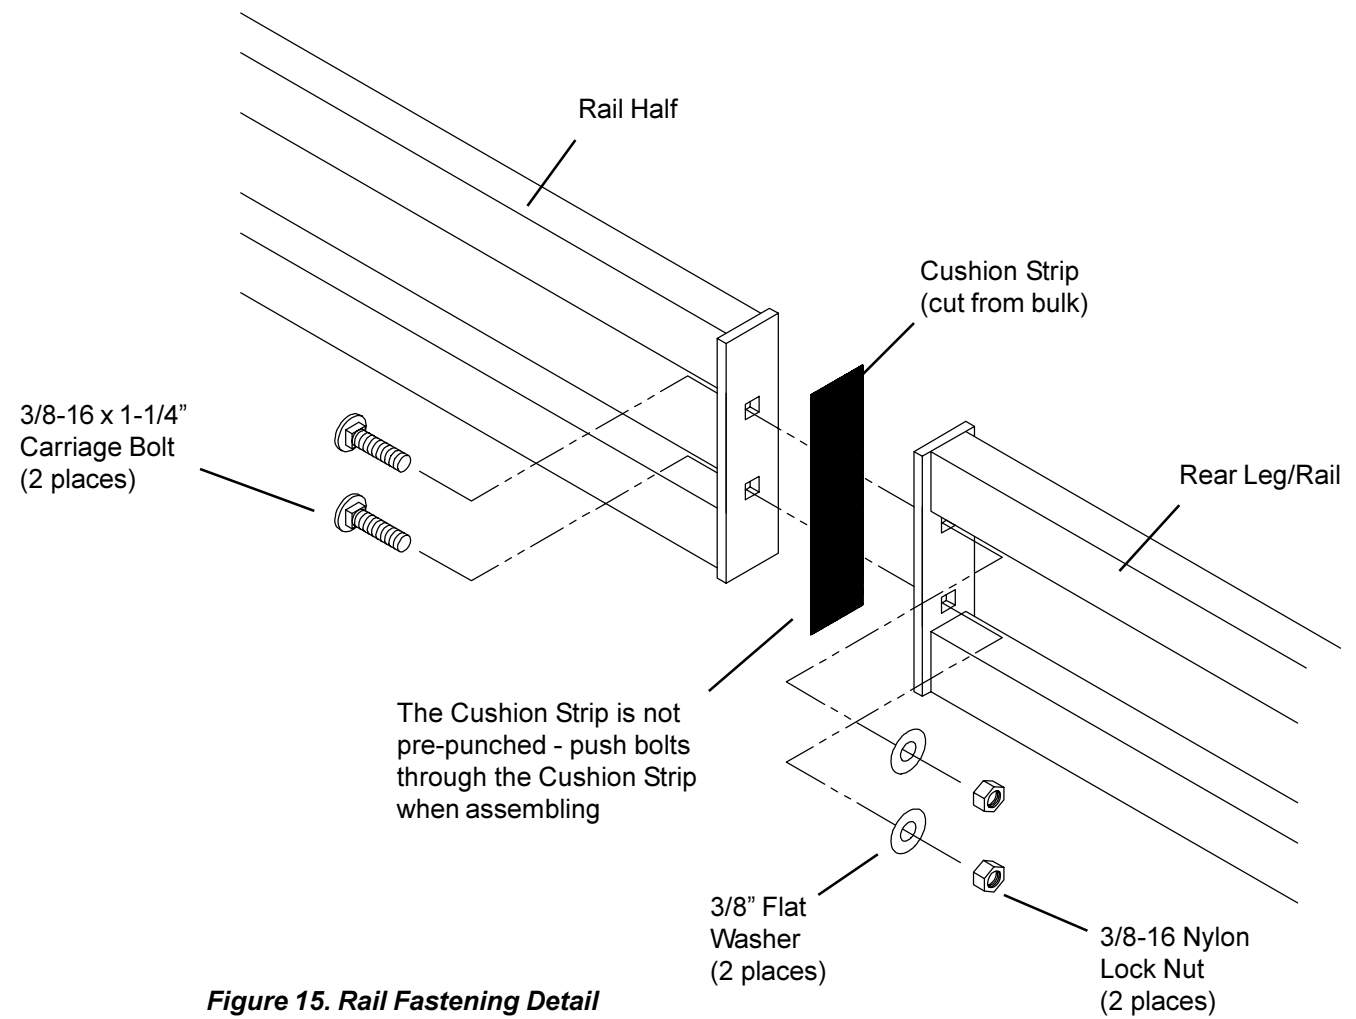

**Figure 13. Leg/Crossmember to Leg Support Assembly**
**5. Front Leg Crossmember** - Install each Crossmember end into a Front Leg Socket (see Figure 13.). Place the Leg/Crossmember assembly into the Leg Supports at the front of the truck with the Leg gussets facing rearward. Tighten the Leg Supports so the Legs are at 90 degrees to the service body. Fasten the Crossmember in the Leg sockets.